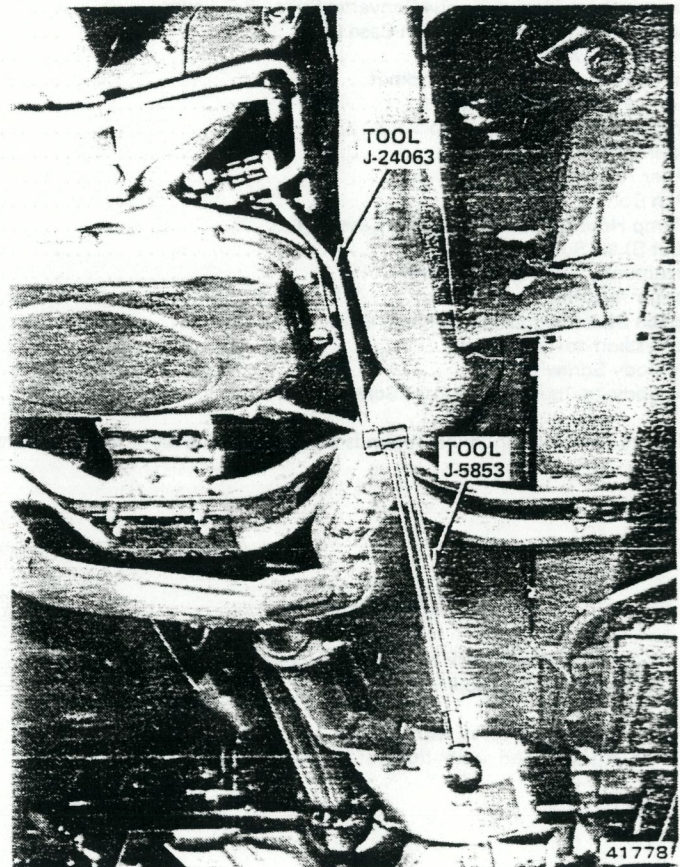

Fig. 2C-21 Front Band Adjustment
The front band adjusting screw is located on the left side of the transmission case just above the manual valve and throttle control levers (fig. 2C-21).
- (3) Check adjusting screw rotation. Screw must turn freely in case. Lubricate adjusting screw threads if screw binds.
- (4) Tighten adjusting screw to 36 inch-pounds (4 N•m) torque using Torque Wrench J-5853, Adapter Tool J-24063 and 5/16 square socket (fig. 2C-21).
- (5) Back off adjusting screw two turns.
- (6) Tighten adjuster screw locknut to 35 foot-pounds (47 N•m) torque. Do not allow adjuster screw to rotate when tightening locknut.
- (7) Lower vehicle.